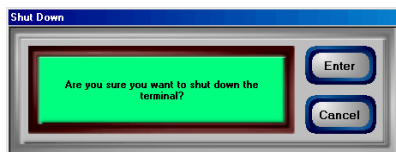

Fig. 7-8. Shut down the terminal - confirmation dialog.
4. Select **Shut Down the Terminal** option by pressing number **(4)** on the alphanumeric keypad. The confirmation dialog appears, as shown in Figure 7-8.